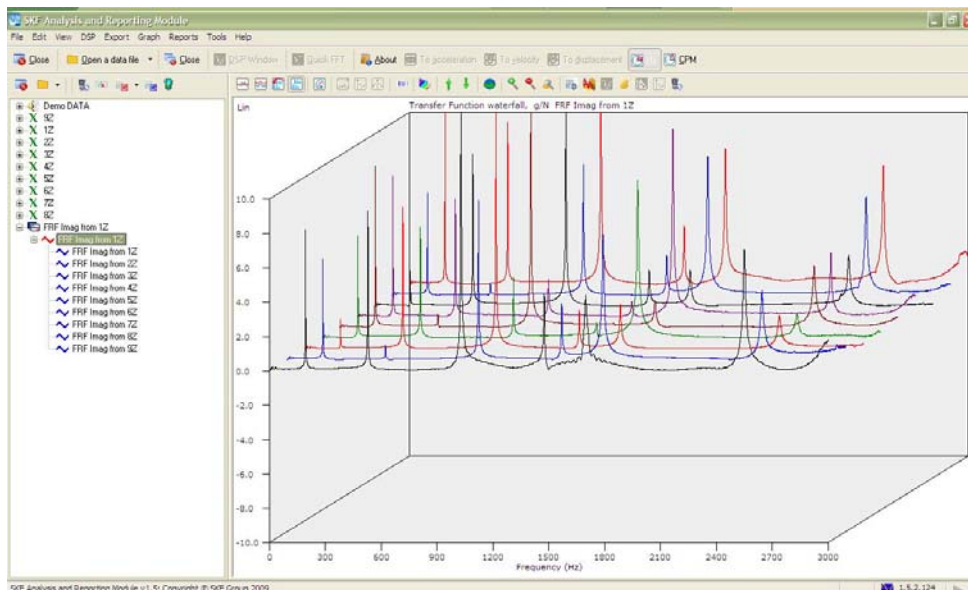

Figure 7. Waterfall graph
7. Use the waterfall icon or else select **Graph > Change plot type > Waterfall** to change the plot type to a waterfall view. [Figure 7]